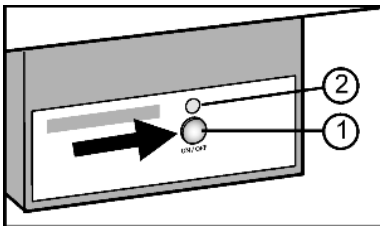

Fig. 31
- ▶ Press the On/Off button Fig. 31 (1) so that the LED Fig. 31 (2) shines.